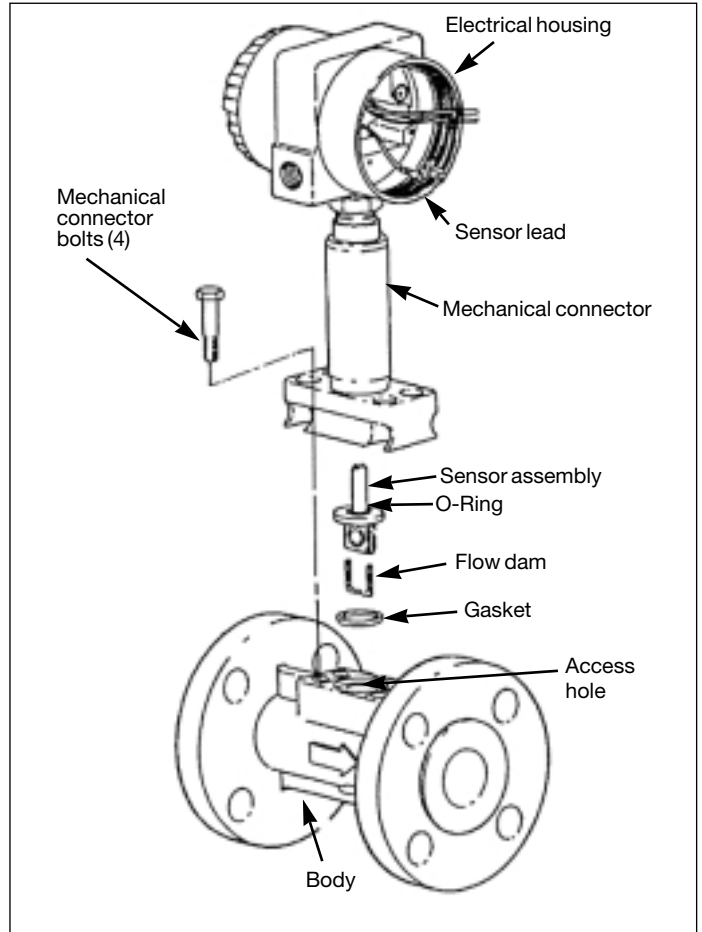

Figure 31: VFM 3100 Assembly
- Carefully feed sensor lead through hole in mechanical connector and gently pull sensor lead out of electrical housing until sensor is touching the mechanical connector. See Figure 31.